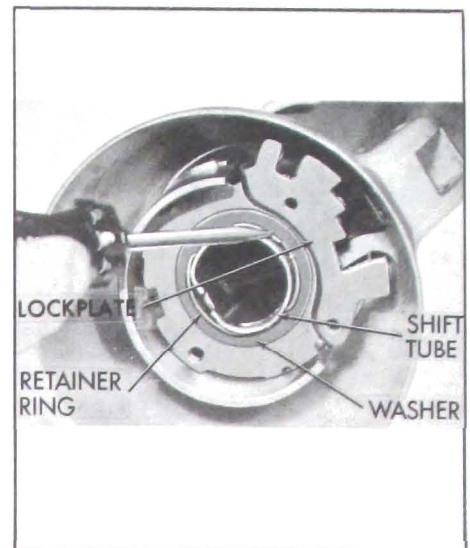

Figure 8-80—Removing Shift Tube Retainer Ring
3. Remove the shift tube retainer ring and washer from the top of shift tube. See Figure 8-80.